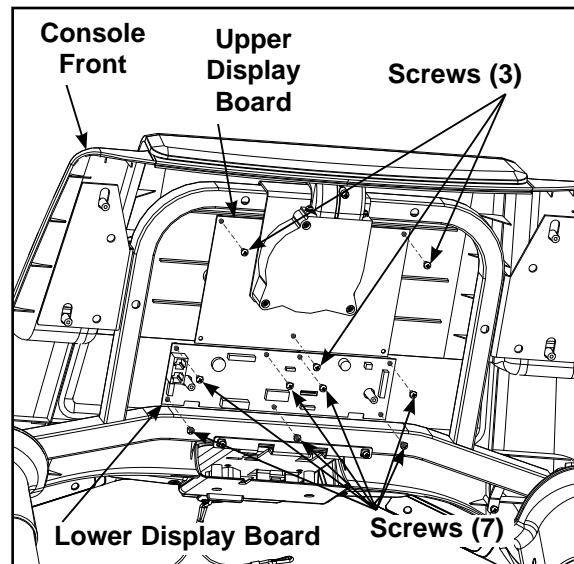

Figure 27
A. Using a Phillips screwdriver, remove the three screws that hold the upper display board to the console front. See Figure 27.
A. Using a Phillips screwdriver, remove the seven screws that hold the lower display board to the console front. See Figure 27.
- B. Using a Phillips screwdriver, secure the seven screws that hold the lower display board to the console. See Figure 27.
- D. Using a Phillips screwdriver, secure the three screws that hold the upper display board to the console. See Figure 27